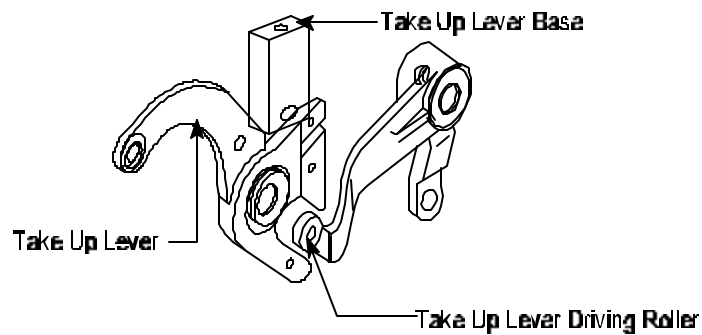

Figure 11
29. **Align** Take-up Lever #9 in center of Take-up Lever Driving Roller. See *Figure 11*.